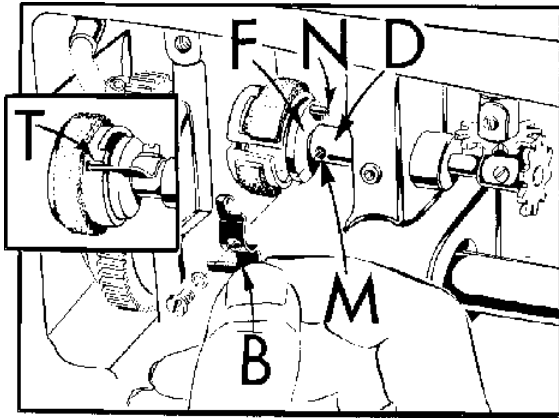
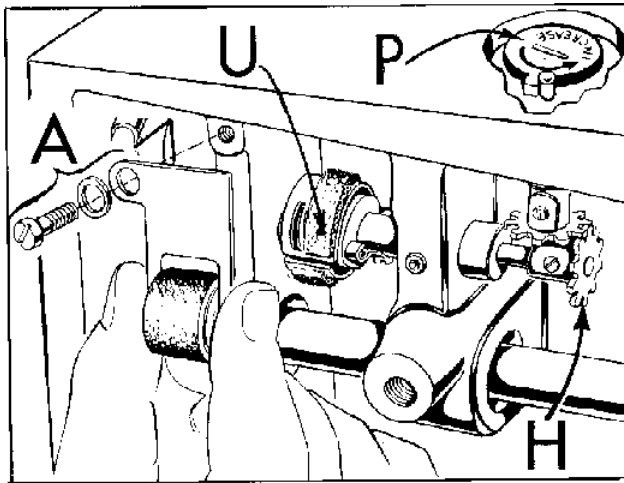

Fig. 26
Fig. 27
10. Turn the hook oil control shaft (D, Fig. 26) until screw hole (M) is accessible. Manually rotate pump disc (F) so its stop pin (N) is 90° above screw hole.
11. Rotate metering cup so the short slot (T) is 180° from stop pin (N). Now, install hook oil control finger (B) by first hanging the hooked portion of finger over the stop pin and lowering to insert the projection at bottom left into the short slot of the metering cup. Tighten the finger in place by means of screw and washer, making sure the hook oil control finger does not bind or distort metering cup.
12. Assemble the hook oil feed roller (A, Fig. 27), and rotate the metering cup so that the roller contacts the metering cup felt at point (U, Fig. 27). Turn the oil control adjusting shaft (P, Fig. 27) in the increase direction until projection stops against the stop in (this is maximum oil supply) and install the cog (H, Fig. 27) on the hook oil control shaft. After meshing the teeth, tighten set screw securely.